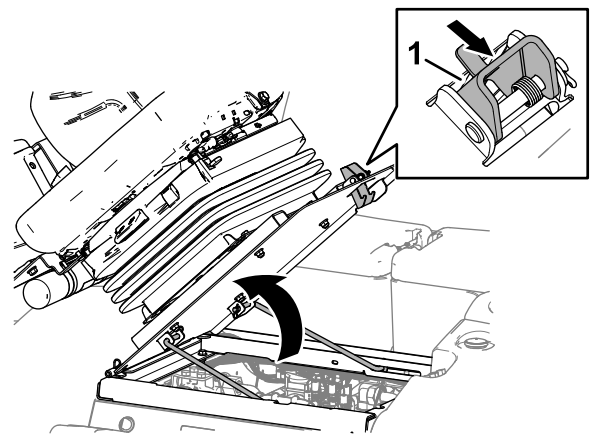

Figure 51
1. Move the seat latch outward (Figure 51).